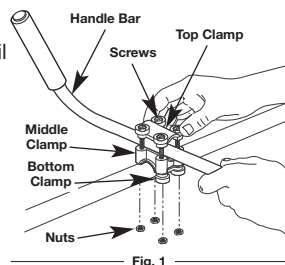

Fig. 1
1. Place the handle bar between the top and middle clamp pieces (Fig. 1).
2. While holding the three pieces together, install the four (4) screws through the top clamp and into middle clamp.